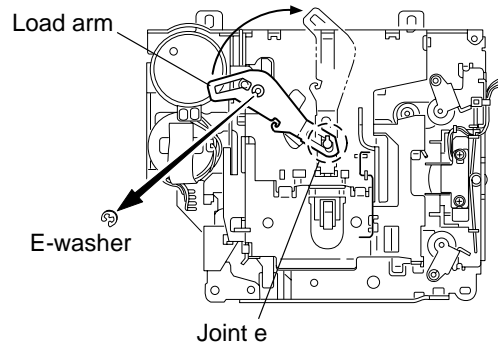

Fig.5
■ **Removing the load arm (See Fig.5)**